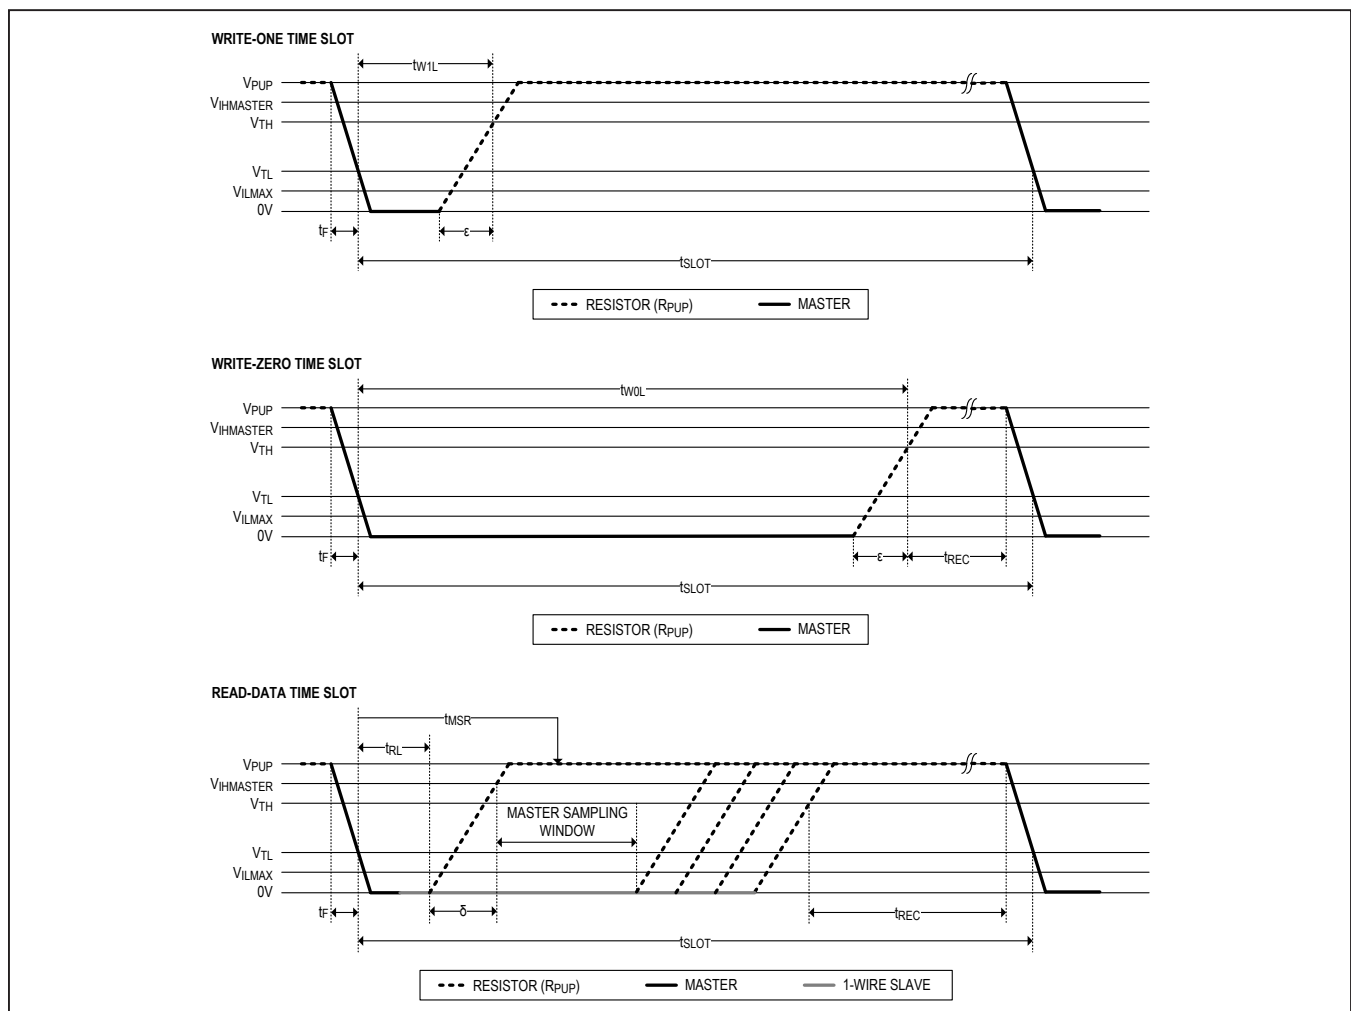

Figure 5. Read/Write Timing Diagrams
- Note 13:** System requirement. ϵ in Figure 5 represents the time required for the pullup circuitry to pull the voltage on IO up from V_{IL} to V_{TH} . The actual maximum duration for the master to pull the line low is $t_{\text{W1LMAX}} + t_{\text{F}} - \epsilon$ and $t_{\text{W0LMAX}} + t_{\text{F}} - \epsilon$, respectively.
- Note 14:** System requirement. δ in Figure 5 represents the time required for the pullup circuitry to pull the voltage on IO up from V_{IL} to the input-high threshold of the bus master. The actual maximum duration for the master to pull the line low is $t_{\text{RLMAX}} + t_{\text{F}}$.
Data communication with the DS28E39 takes place in time slots that carry a single bit each. Write time slots transport data from bus master to slave. Read time slots transfer data from slave to master. Figure 5 illustrates the definitions of the write and read time slots.